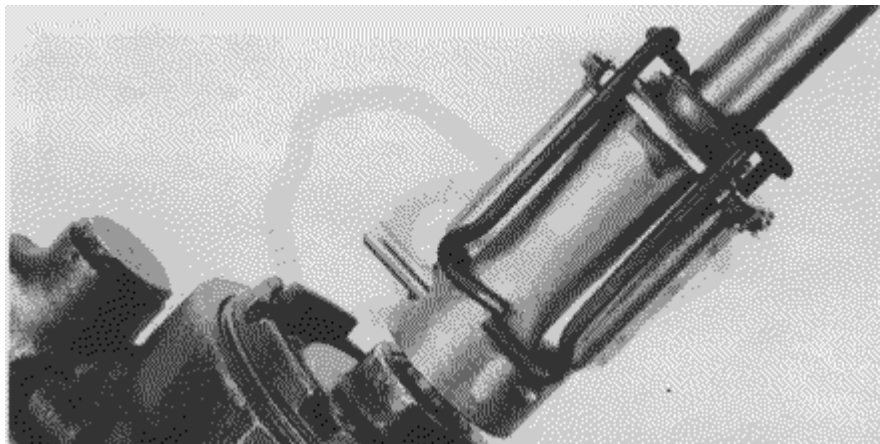

FIGURE 5: STEERING COUPLING CLAMP INSTALLATION
4. Force clamp down over cover. (Figure 5)